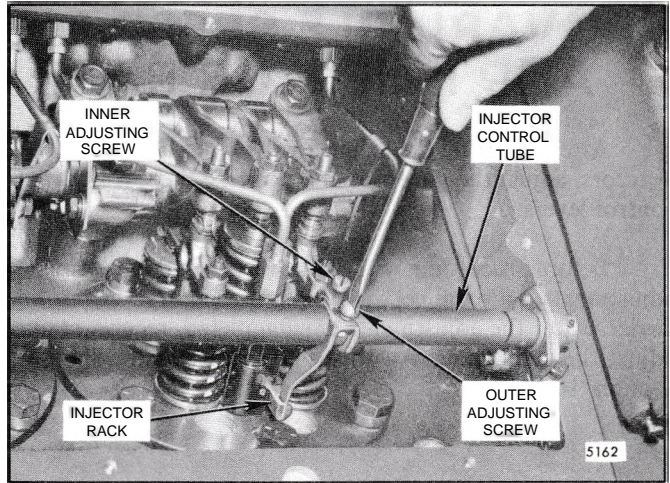
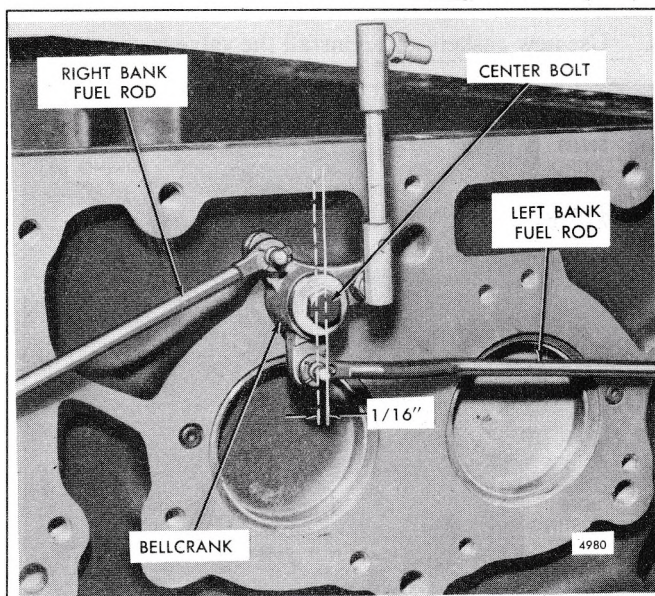

Fig. 4 - Positioning No. 1 Injector Rack Control Lever
Fig. 5 - Bellcrank in Position (Former)
- a. With the fuel rod on the left bank injector control tube disconnected and the fuel rod on the right bank injector control tube connected, turn down the outer adjusting screw (Fig. 4) of the No. 1R injector control lever until the ball-end of the lever is just snug against the injector rack (with the rack in the *no-fuel* position).
- a. With the fuel rod on the left bank injector control tube disconnected and the fuel rod on the right bank injector control tube connected, tighten the adjusting screw (Fig. 4) of the No. 1R injector control lever until the ball-end of the lever is just snug against the injector rack (with the rack in the *no-fuel* position).
4. On former governors, position the elongated pin in the bellcrank (the pin which carries the left bank fuel rod) so that it lines up with the center bolt of the bellcrank from vertical to approximately 1/16" off center toward the right cylinder bank (Fig. 5). Then, set the No. 1L injector in the *no-fuel* position, as follows (Fig. 4):